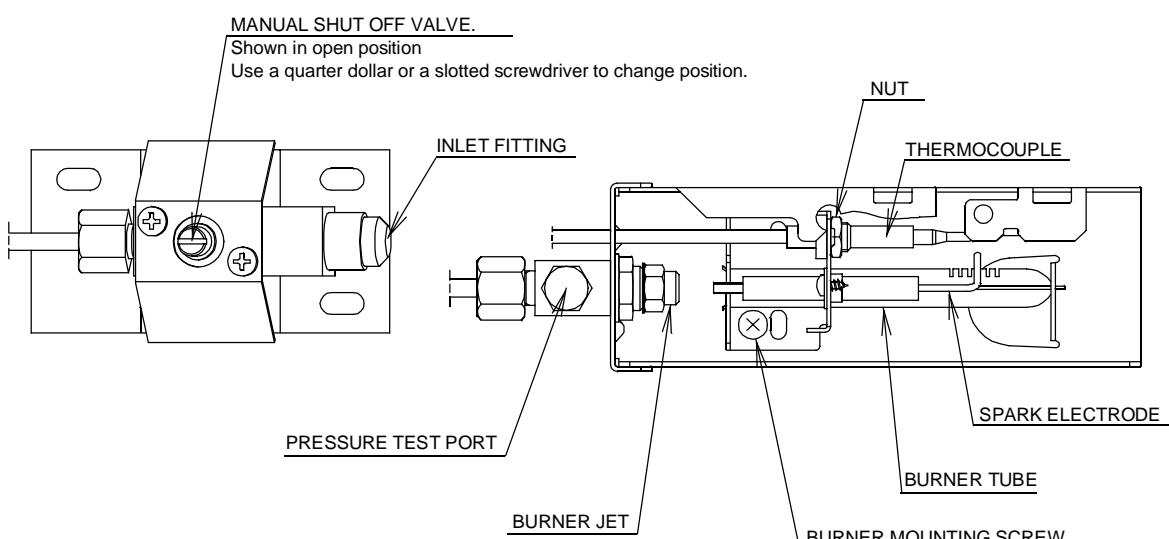

FIG. 12
- column. The correct place to take the LP gas pressure is at the test port just ahead of the burner jet. (See FIG. 12).
6. Remove the burner mounting screw and remove the burner assembly. (See FIG. 12).
Set main regulator so pressure does not drop below 11 inches water column at pressure test port (see page 11, FIG. 12).